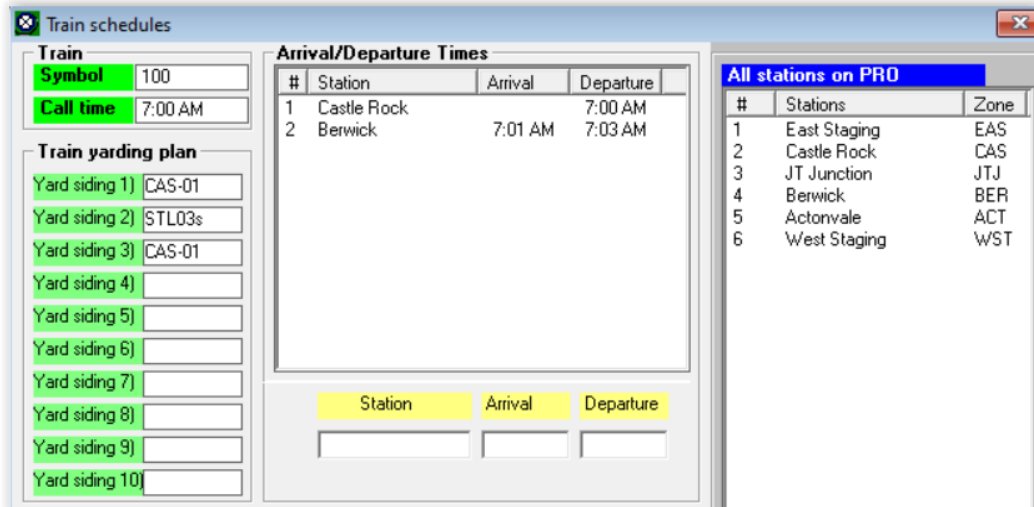

Figure 13-20
Page 13-22-24 **Fig. 13-20, 21** Delete Figures 13-20 and 13-21.
- b. In the "Departure" data field change the time to "7:03 AM". Then click on the "Save stop" button (which becomes visible when you click in the data field) to enter the Berwick stop into the schedule. The schedule will now look like Figure 13-20 (only the upper portion of the window where data is located is shown).